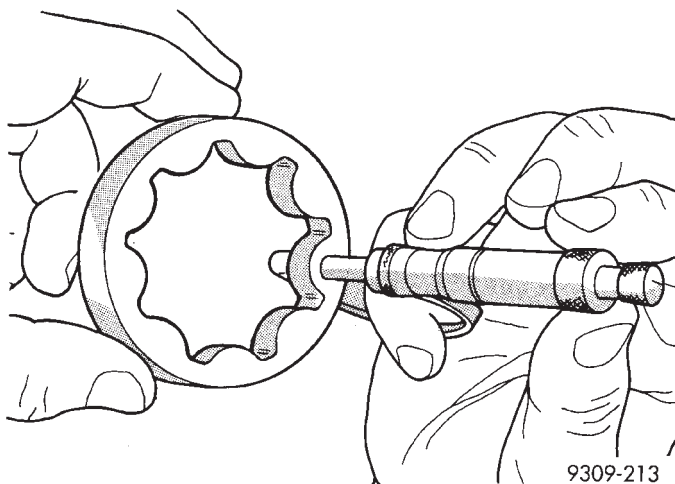

Fig. 96 Measuring Outer Rotor Thickness
(3) Measure thickness and diameter of outer rotor. If outer rotor thickness measures 7.64 mm (0.301 inch.) or less (Fig. 96), or if the diameter is 79.95 mm (3.148 inches) or less, replace outer rotor.